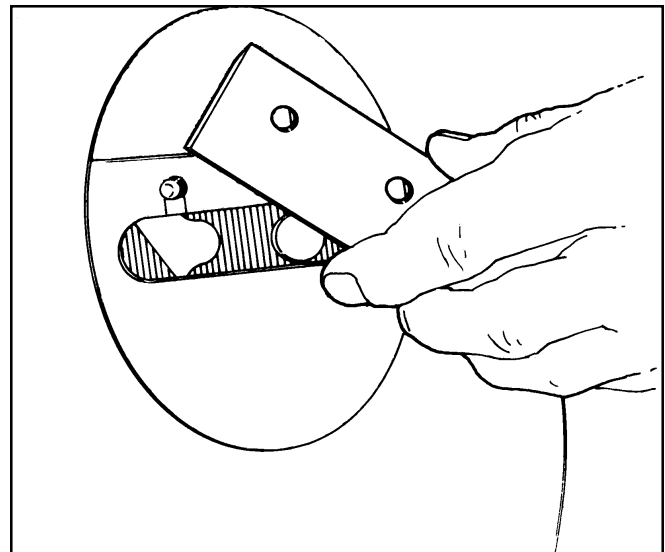

Figure 19. Removing Chipper Knife Through Front Opening
5. See Figure 19. Remove both knives through the opening in the front of the chipper/shredder, and sharpen equally or replace both blades to ensure proper balancing and correct chipping action.